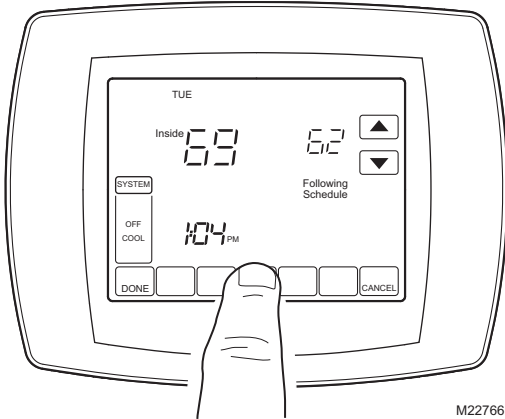

Fig. 12. Entering Field Service mode.
2. Press and hold the center bottom key for approximately five seconds (see Fig. 12).